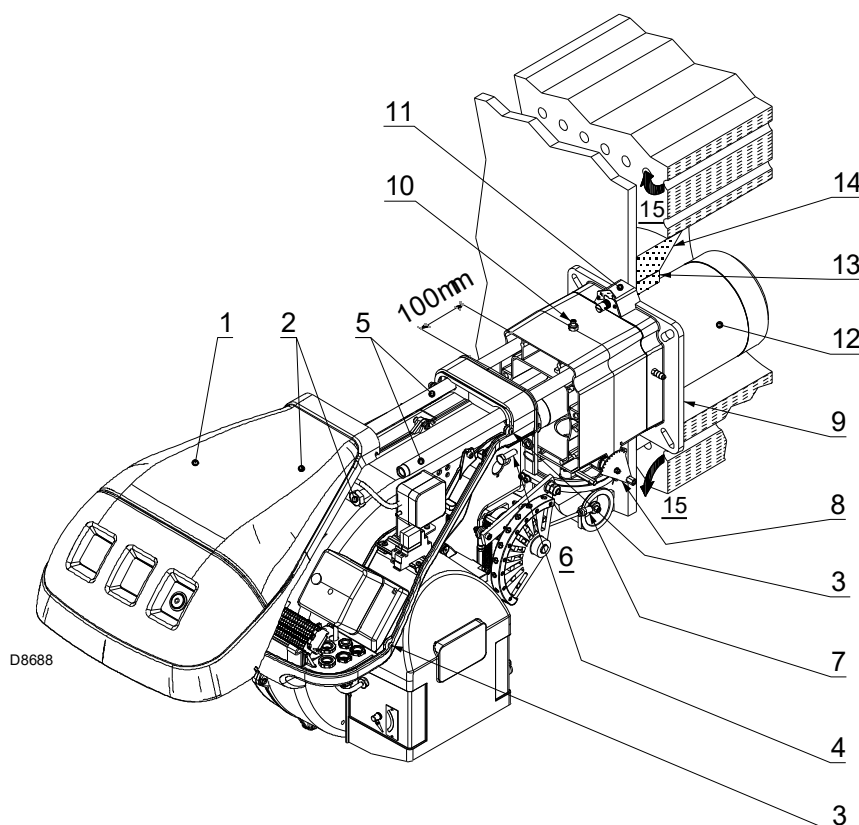

Fig. 11
The length of the blast tube 12)(Fig. 11 on page 15) must be selected according to the indications provided by the boiler manufacturer, and in any case must be greater than the thickness of the boiler door complete with its refractory.
For boilers with a front flue gas passes 15)(Fig. 11 on page 15) or flame inversion chamber, a protection device in refractory material 13) must be inserted between the boiler fettling 14) and the blast tube 12).
Separate the combustion head from the rest of the burner, as shown in Fig. 11.
Once this operation (if necessary) has been carried out, fix the flange 11)(Fig. 11) to the boiler plate, interposing the insulating gasket 9)(Fig. 11) supplied.
- reassemble the burner on the guides 3), about 100mm from the pipe coupling 4) - burner in the position shown in Fig. 11;